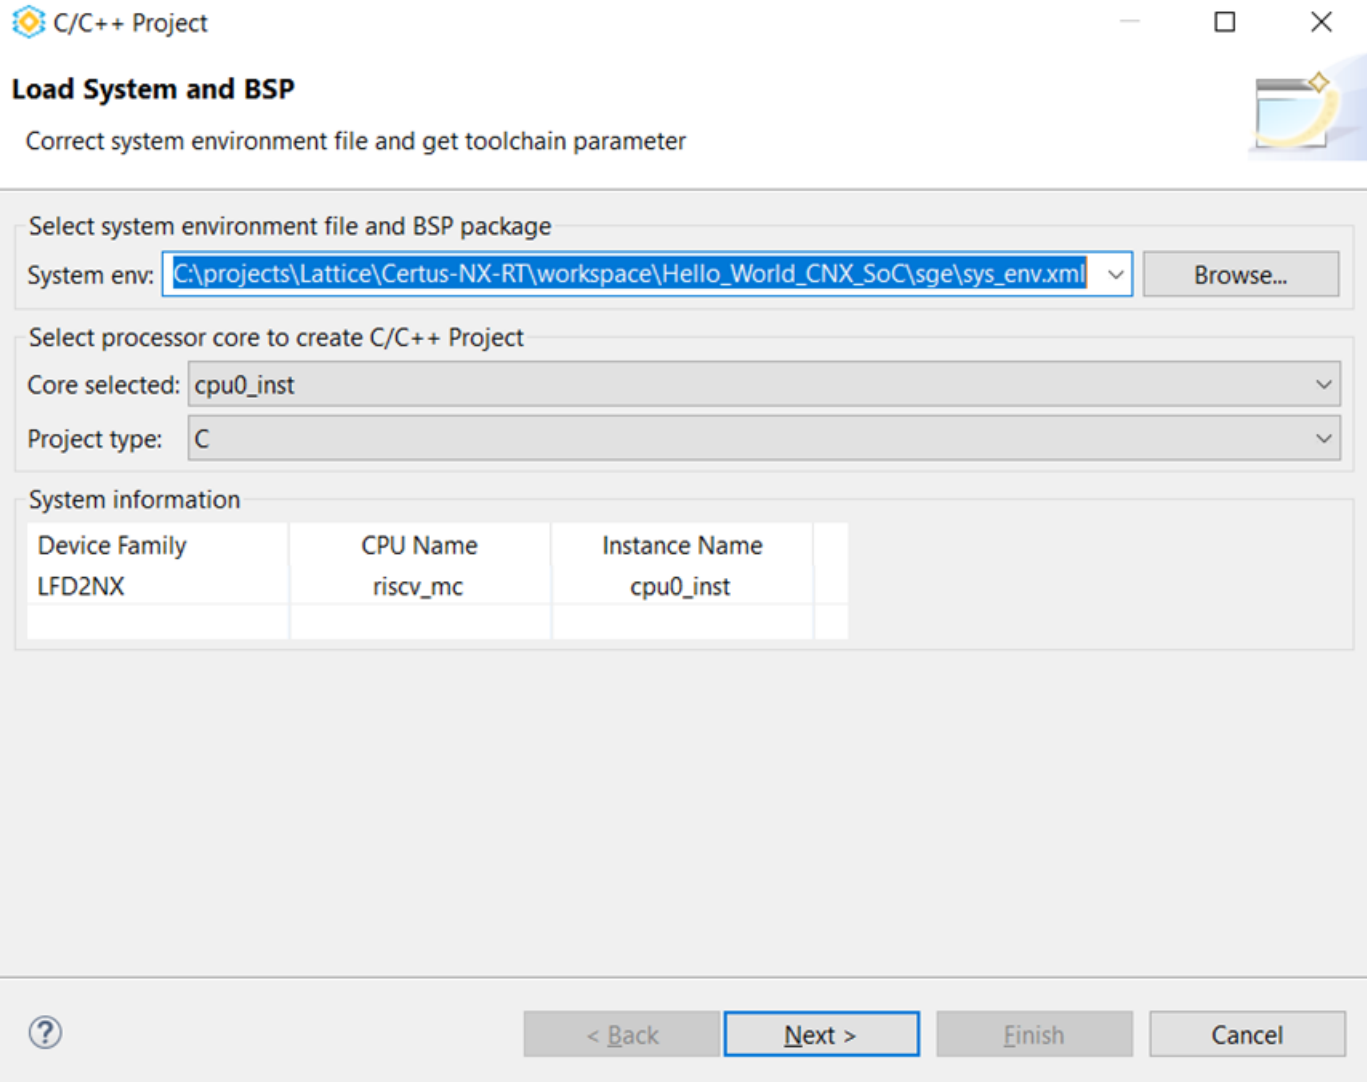

Figure 10: Creating a New Software Project
7. Back in **Lattice Propel**, create a software project. From the **File** menu, select **New > Lattice C/C++ Project** and click **Next**, see **Figure 10**.